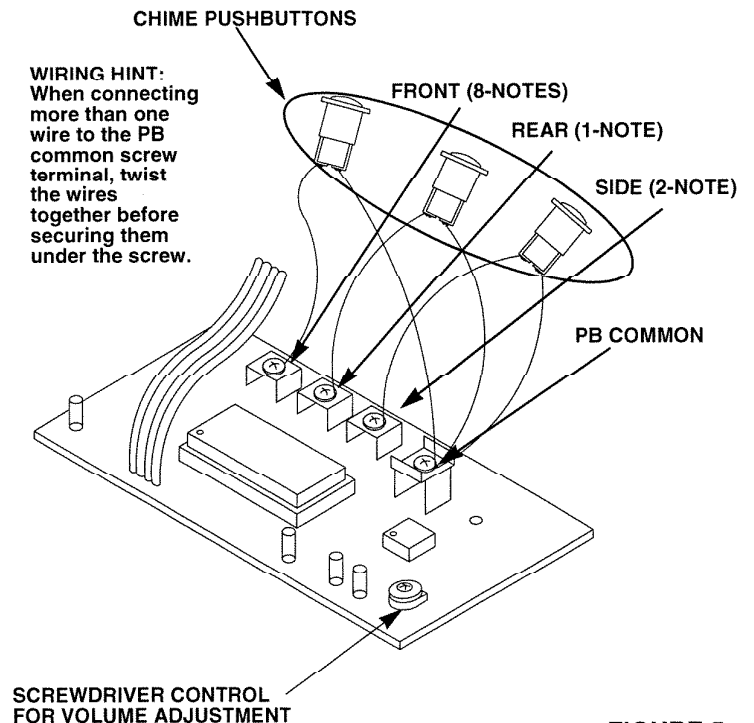

FIGURE 5
1. Refer to Figure 5. Connect pushbutton wires to screw terminals on the Chime Module as follows: